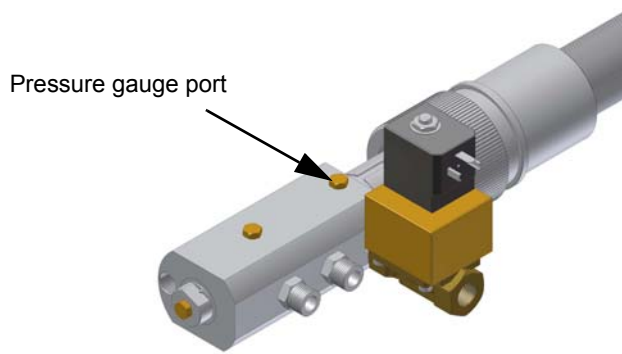

Fig. 18
- 7 The nozzle supply pressure is already factory-set and must not be changed. Only if necessary, adjust the supply pressure as follows (see related paragraph); insert a pressure gauge into the port shown on Fig. 18 and act on on the pump adjusting screw **VR**